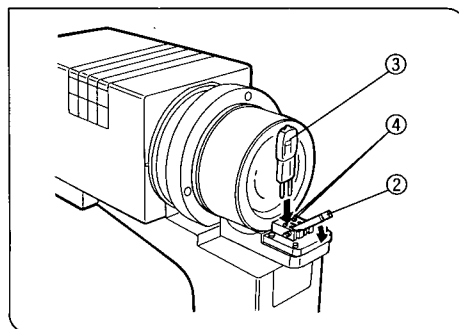

Fig. 6
2. Holding the bulb with a piece of gauze to avoid touching it directly with bare hands, depress the bulb clamping levers ② in the direction of the arrow and insert the pins of the bulb ③ fully into the pin holes ④. (Fig. 6)